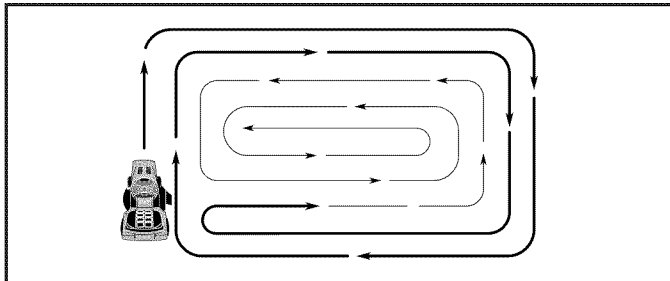

FIG. 13
- When mowing large areas, start by turning to the right so that clippings will discharge away from shrubs, fences, driveways, etc. After one or two rounds, mow in the opposite direction making left hand turns until finished (See Fig. 13 ).